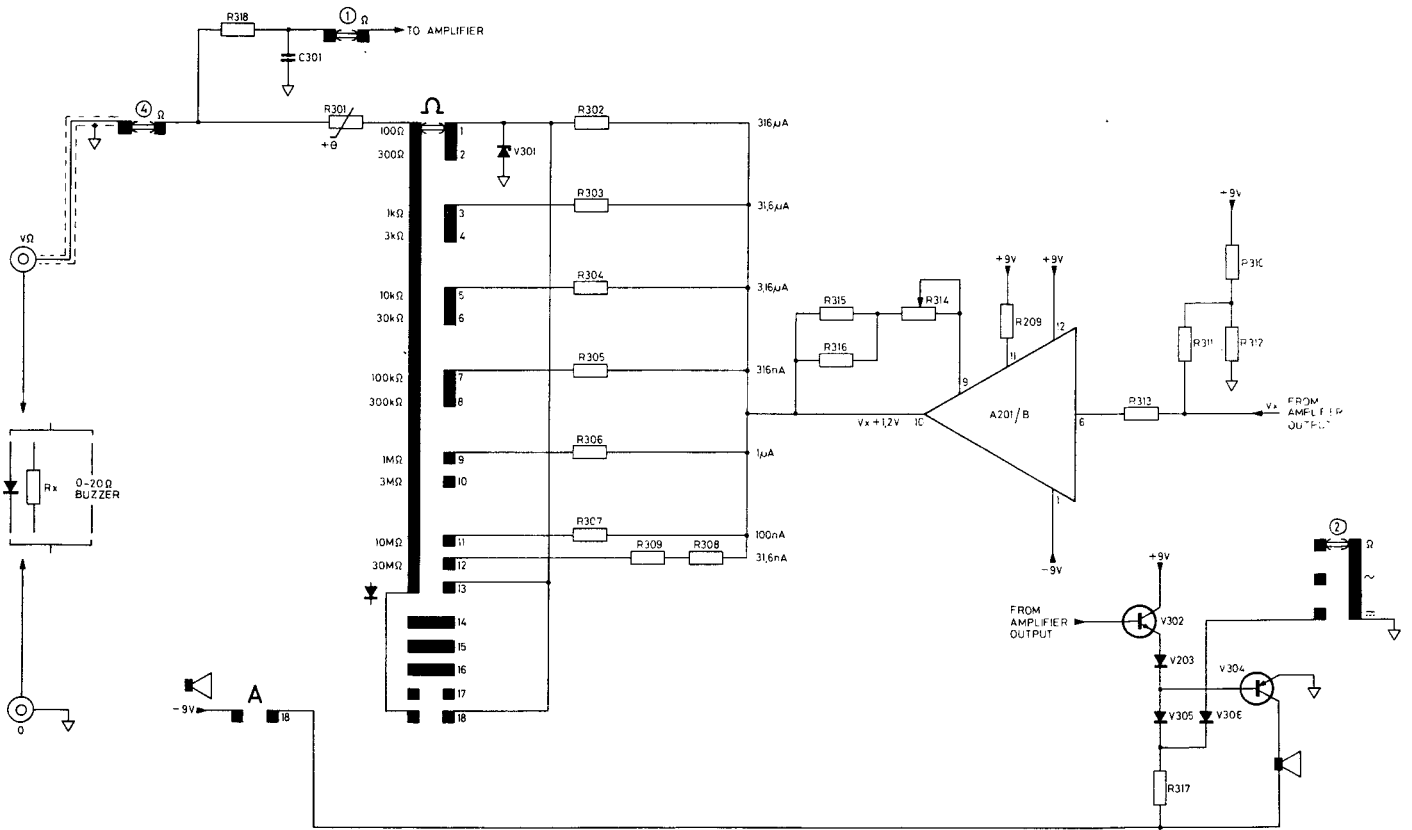

Fig. 12. Ω , \downarrow , BUZZER current source
4.3.3.2. Ω , \downarrow and BUZZER current source (Fig. 12)